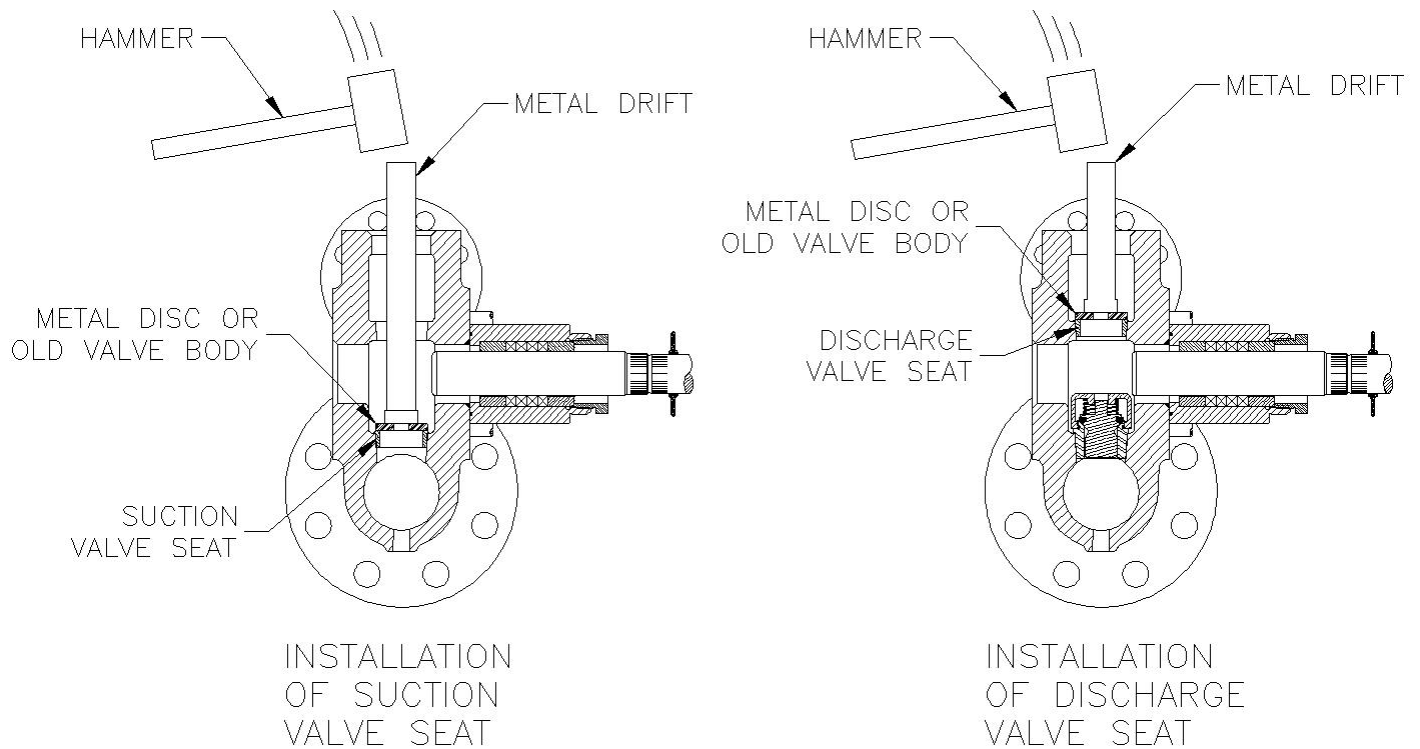

Figure 19
- d. Using a metal plate or old worn valve body, drive the seat into place with several sharp blows from a hammer and bar. See Figure 19.